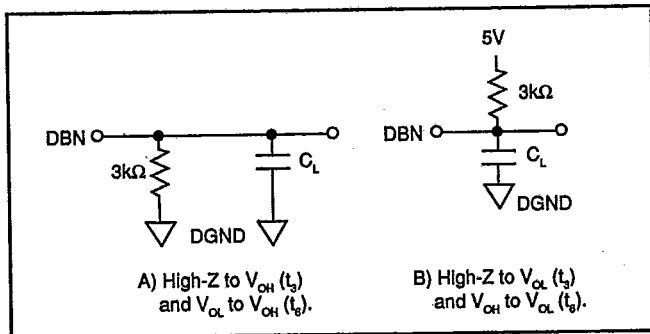

FIGURE 1. Load Circuits for Access Time.
NOTES (1) TTL, LSTTL, and 5V CMOS compatible. (2) FSR means Full Scale Range. For example, unit connected for $\pm 10V$ range has 20V FSR. (3) Externally adjustable to zero (4) See Table I. USB – Unipolar Straight Binary; BTC – Binary Twos Complement; BOB – Bipolar Offset Binary; NRZ – Non Return to Zero. (5) Max supply current is specified at rated supply voltages. (6) All input control signals are specified with $t_{RISE} = t_{FALL} = 5ns$ (10% to 90% of 5V) and timed from a voltage level of 1.6V. (7) t_{13} is measured with the load circuits of Figure 1 and defined as the time required for an output to cross 0.8V or 2.4V. (8) t_{16} is defined as the time required for the data lines to change 0.5V when loaded with the circuits of Figure 2.